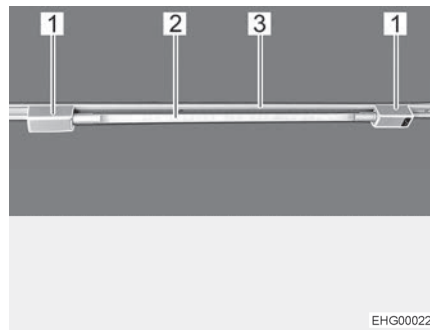

Fig. 26 Fluorescent tube
- Insert both brackets (Fig. 26,1) into the rail (Fig. 26,3). In order to do this, turn bracket through 90°.
- Plug lamp body (Fig. 26,2) into one of the brackets.
- Turn lamp body handle (Fig. 26,2) until the desired lighting effect is achieved.